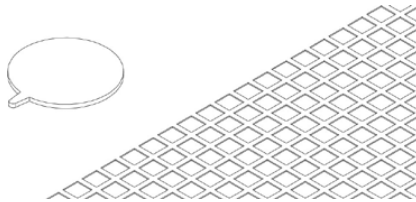

Figure 6.2: Water Filler Lid
- The water filler must be capped and easily accessible. See Figure 6.2